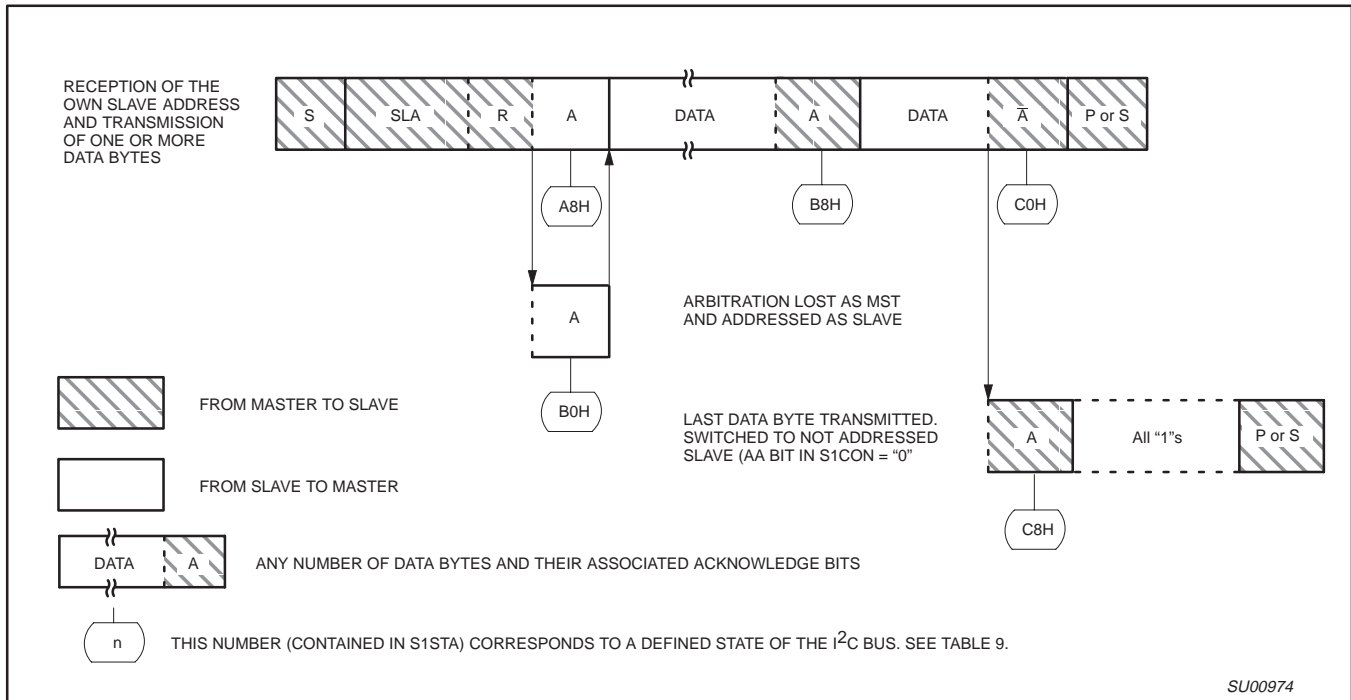

Figure 42. Format and States of the Slave Transmitter Mode
When SIO1 is in the addressed slave transmitter mode, state C8H will be entered after the last serial is transmitted (see Figure 42). When SI is cleared, SIO1 leaves state C8H, enters the not addressed slave receiver mode, and the SDA line remains at a high level. In state C8H, the AA flag can be set again for future address recognition.
Slave Transmitter Mode: In the slave transmitter mode, a number of data bytes are transmitted to a master receiver (see Figure 42). Data transfer is initialized as in the slave receiver mode. When S1ADR and S1CON have been initialized, SIO1 waits until it is addressed by its own slave address followed by the data direction bit which must be “1” (R) for SIO1 to operate in the slave transmitter mode. After its own slave address and the R bit have been received, the serial interrupt flag (SI) is set and a valid status code can be read from S1STA. This status code is used to vector to an interrupt service routine, and the appropriate action to be taken for each of these status codes is detailed in Table 9. The slave transmitter mode may also be entered if arbitration is lost while SIO1 is in the master mode (see state B0H).